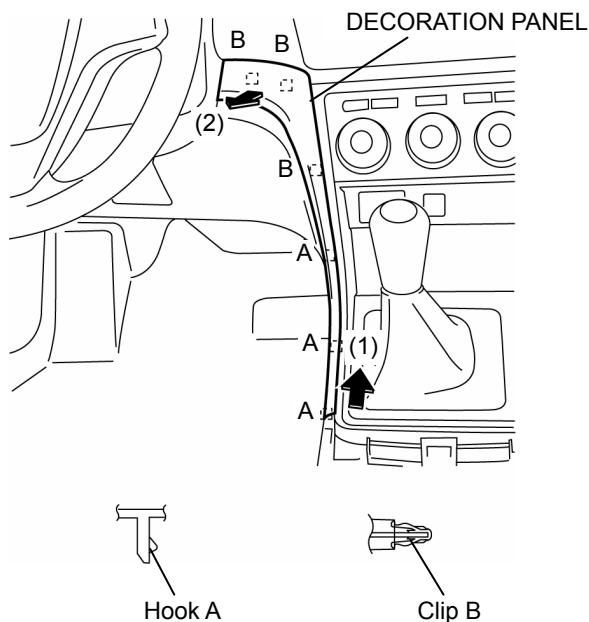
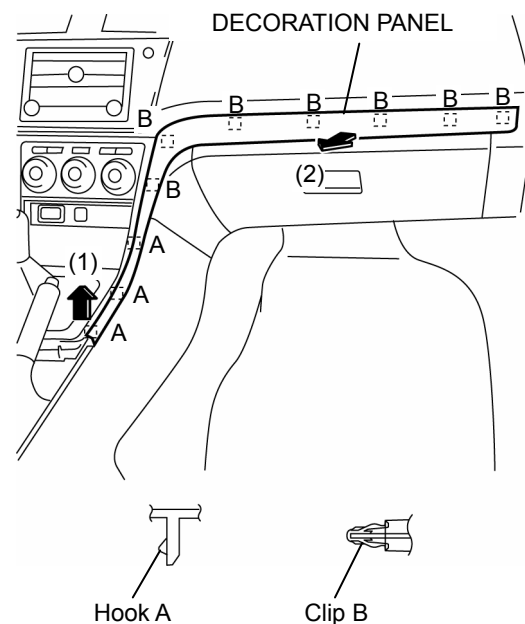
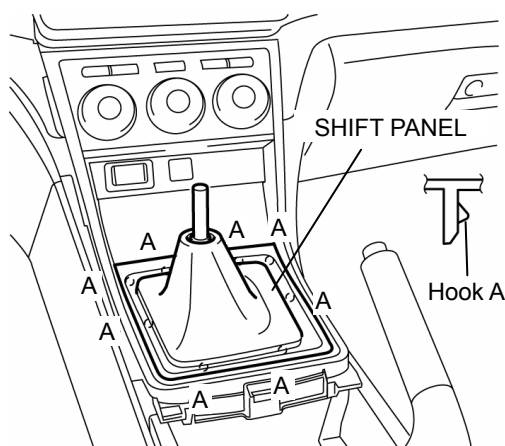

FIGURE 4
FIGURE 5
FIGURE 6
4. Remove the decoration panel. (driver's side). (refer to Figure 4)
- A. Pull the decoration panel in the direction of the arrow in the order of (1) and (2), then remove it while detaching the hooks A (3 locations) and clips B (3 locations).
5. Remove the decoration panel. (passenger's side). (refer to Figure 5)
- A. Pull the decoration panel in the direction of the arrow in the order of (1) and (2), then remove it while detaching the hooks A (3 locations) and clips B (7 locations).
6. Remove the shift panel. (refer to Figures 6)